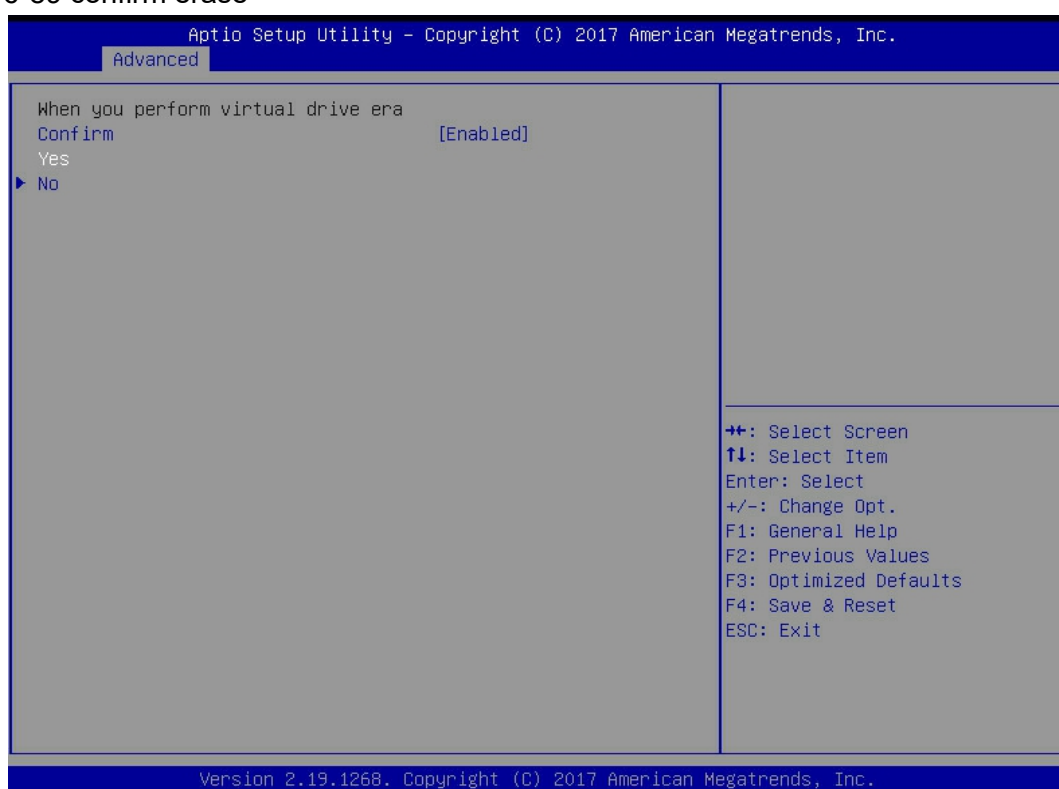

Figure 6-89
f) Enter the interface shown in figure 6-89, select confirm to enable it, select Yes, and press enter.
✧ Figure 6-89 confirm erase